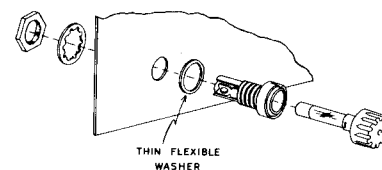

Figure 9
- () Following Figure 9, mount the fuse holder at EE. Position the contact lugs as shown in Figure 8. Install the fuse in the holder.